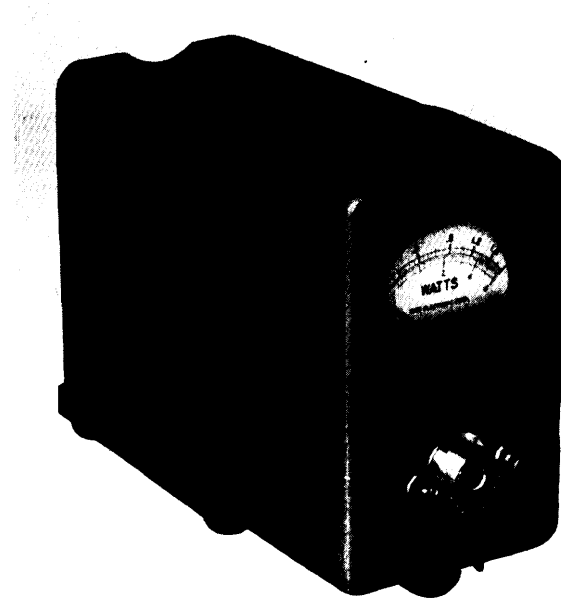

Figure 0-1. Wattmeter ME-497/U
**0-7. PURPOSE AND FUNCTION.** Wattmeter ME-497/U (see figure 0-1 ) is designed to measure radio frequency (RF) power under non-radiating conditions, and has the following specific uses: